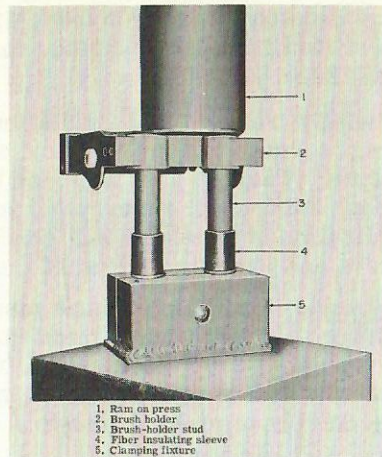

Fig. 11-10
- d. With assembled insulation clamped in fixture, press it on steel stud in casting. See Fig. 11-10. Press studs into insulation until studs seat against washers at bottom of insulating sleeve. Support under or press on end of steel stud, to avoid loosening stud in brush-holder casting. Care must be taken to avoid cracking of insulating sleeve and to maintain alignment of studs.